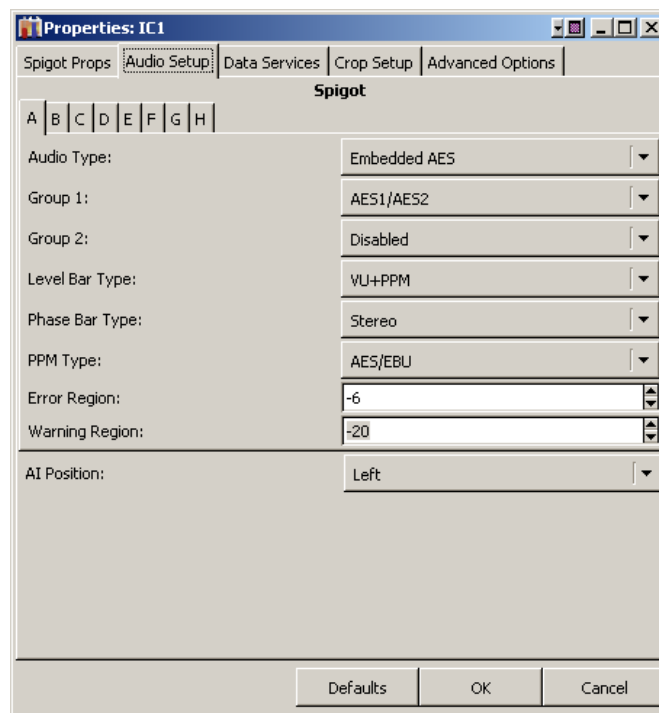

Figure 4-1: Audio Setup Window
5. Click the **Audio Setup** tab. This opens the window in Figure 4-1 below: